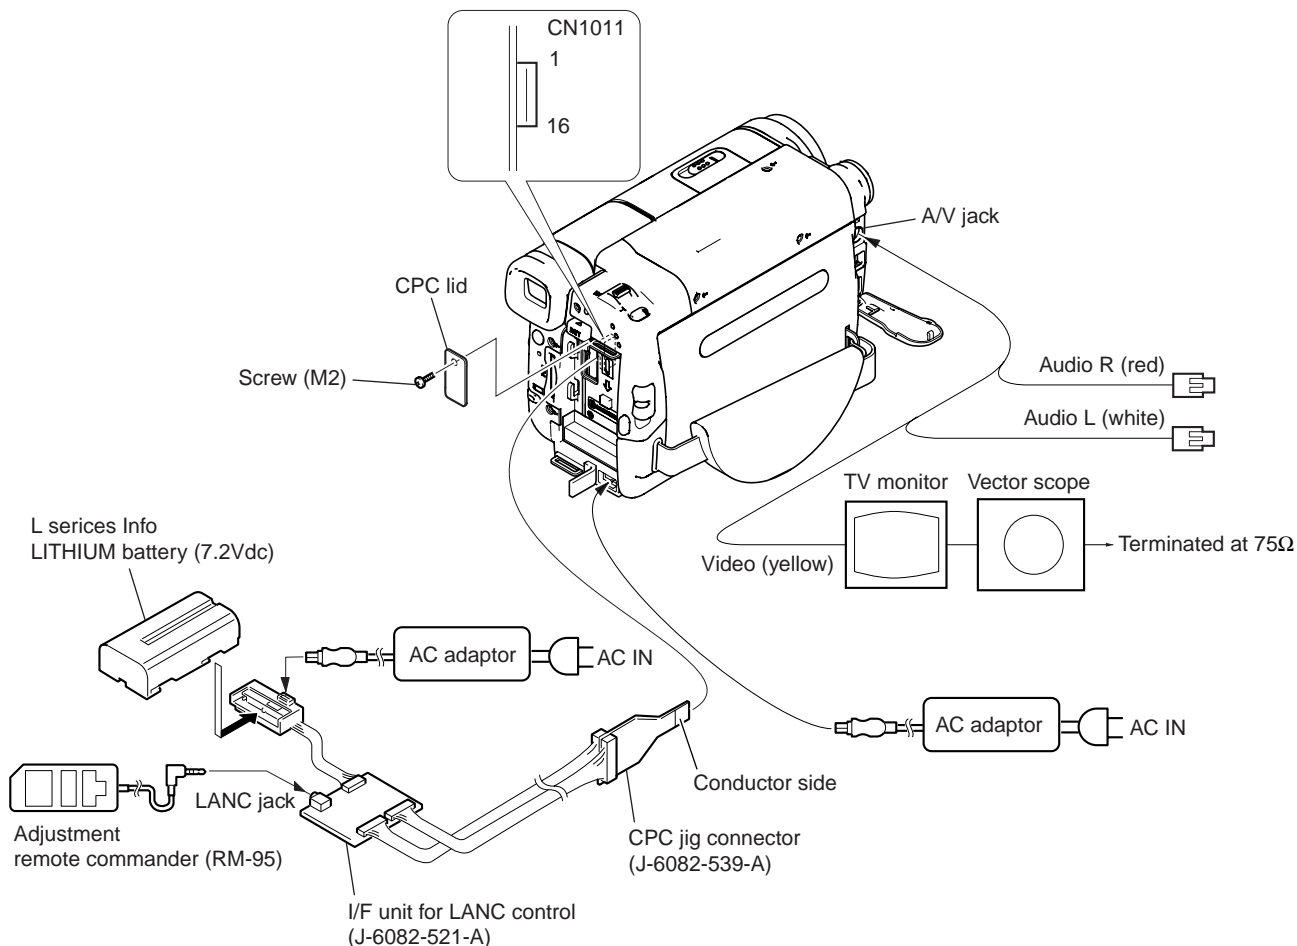

Fig. 6-1-3
- 1) Connect the equipment for adjustments according to Fig. 6-1-3.
- 2) Connect the adjustment remote commander to VC-345 board CN1011 via I/F unit for LANC control (J-6082-521-A) and CPC jig connector (J-6082-539-A). (Fig. 6-1-3)